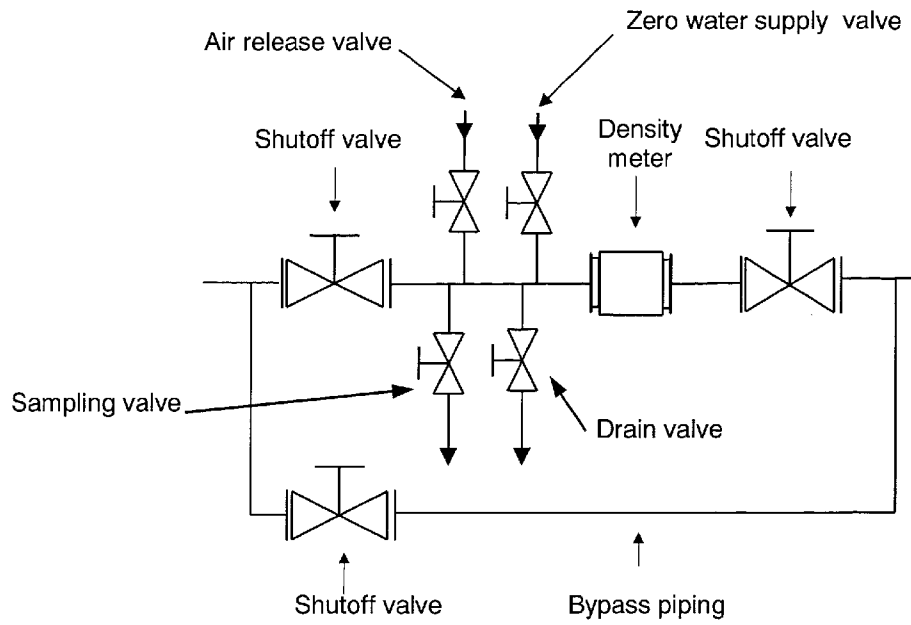
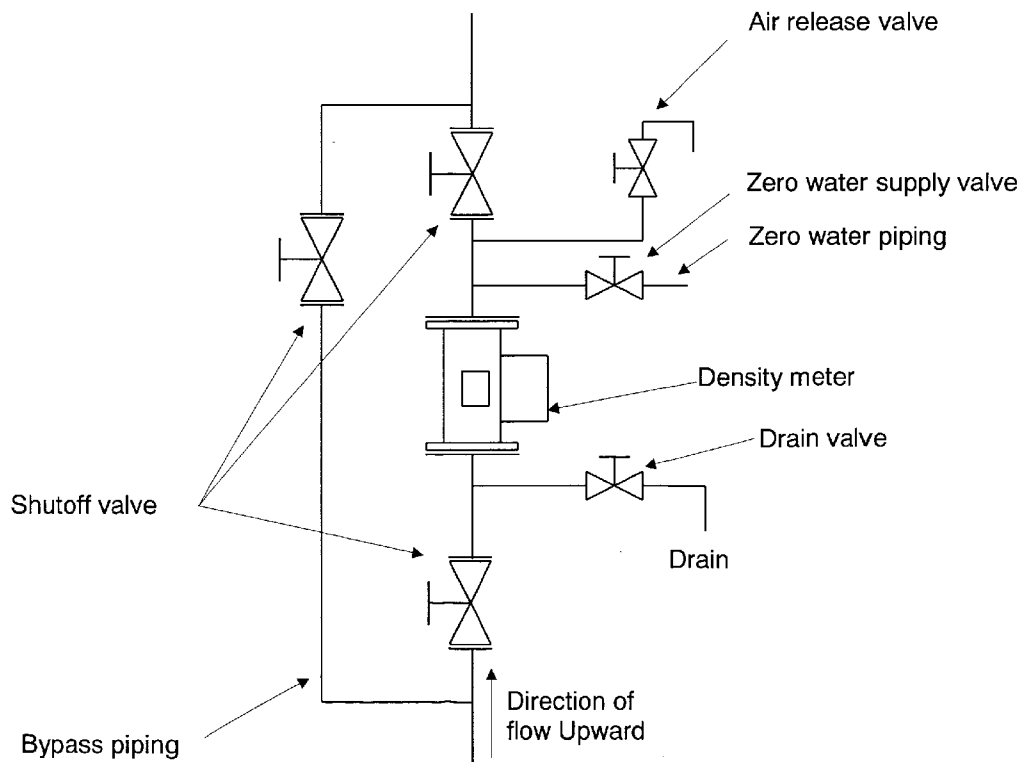
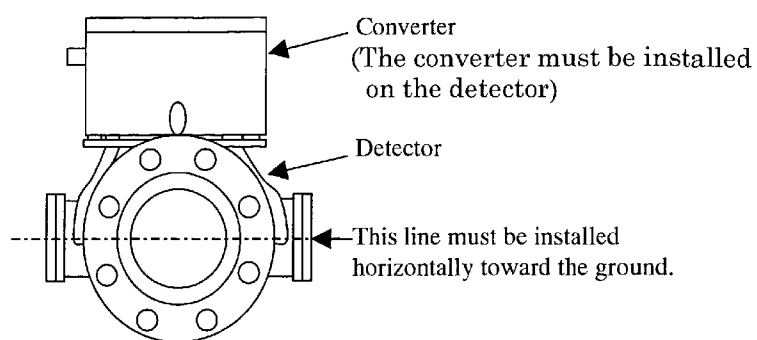

Fig.3.3.1 Meter mounted horizontally (Looking from above)
Fig.3.3.2 Meter mounted vertically
Fig.3.3.3 In case of horizontal installation
Installing the density meter is illustrated in Fig. 3.3.1 and Fig. 3.3.2, Fig.3.3.3, Fig.3.3.4.
- (1) Install the density meter in a location where the measured fluid flows through the meter tube in full and bubbles do not stay. Insufficient fluid flowing or bubbles staying in the tube will cause measuring errors or indicated-value fluctuations. To avoid such problems, it is recommended that the meter be installed on the outlet port of a pump rather than the intake side.
- (2) Avoid such a location where the measured matter will settle and build up on the bottom of the density meter.
- (3) Avoid such a location which will allow bubbles to move into the pipe line.
- (4) The density meter can be installed either on a horizontal or vertical piping layout without causing any change in its performance. Choose the style depending on the situation of the location for installation. The vertical piping is preferable for some conditions (see (5)).
- (5) Especially in the following situations, make sure that the piping is vertical.
- (6) When installing on the horizontal piping, make sure that the meter is installed directly on top of the converter section for purposes of maintenance and performance assurance (in other words, so that the paired applicator sections are placed directly side by side).(See Fig.3.3.3)
- (7) This density meter does not distinguish between the upstream side and the downstream side. Neither does it require a straight tube length. Install it in a direction that will make maintenance easy.
- (8) The front side of the density meter's converter section is equipped with an LED density display section. When installing the meter, choose a location and direction in which this density display section will be easily visible.
- (11) In the event that the density meter may no longer be full of the fluid while the pump is shut down or the density distribution in the density meter may become uneven, make sure to take measurements only while the pump is operating by using the external interlock function.
- (12) Take necessary measures to prevent vibrations of the pump, etc. from travelling through the piping.
- (13) On both the upstream and downstream sides of the density meter, install shutoff valves. Furthermore, between these valves and the density meter, install the sampling port, the zero water supply port, the air release port, the drain port with a shutoff valve attached respectively. In the event that the flow of the pipe line cannot be stopped, provide a bypass pipe halfway with a shutoff valve attached. When performing zero point calibration, these are needed to discharge the measured matter out of the density meter through its drain port and fill up the meter with fresh water of zero density. (See Fig.3.3.1 and Fig.3.3.2)
- (14) When choosing packings to be used for piping, make sure that their dimensions meet the flange standards and their material quality matches the object of measurement.